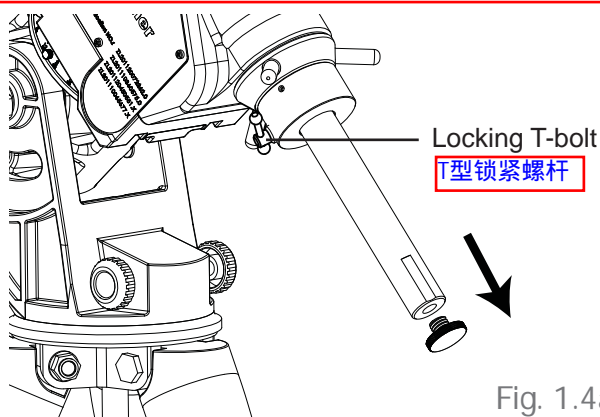

Fig. 1.4a
1. Loosen the T-bolt for locking the counterweight rod and gently pull out the counterweight rod. Re-tighten the T-bolt to secure the counterweight rod in place. (Fig. 1.4a)